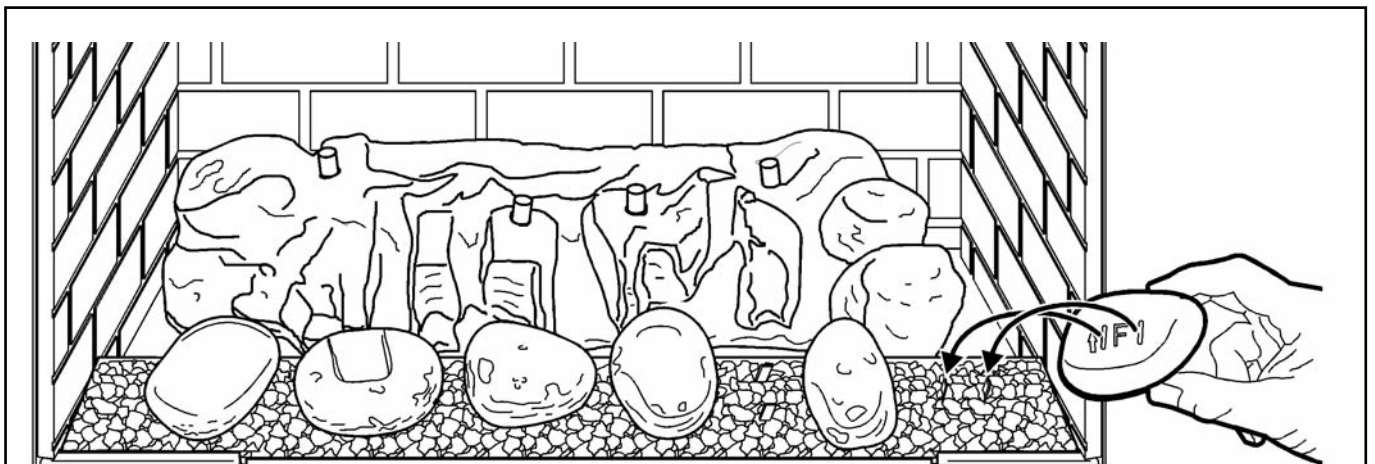

Figure 9. Fitting pebble 'F'
9. Hold pebble 'F' as in figure 9 so that the arrow points towards the rear of the fire. Locate the slots in the base of pebble 'F' onto the two right hand location tags.